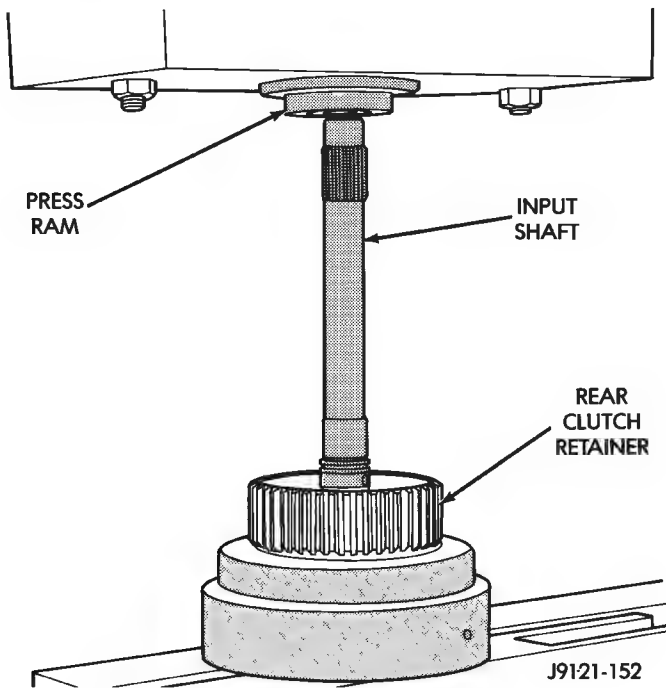

Fig. 76 Pressing Input Shaft Into Rear Clutch Retainer
(3) Lubricate splined end of input shaft and clutch retainer with transmission fluid. Then press input shaft into retainer (Fig. 76).